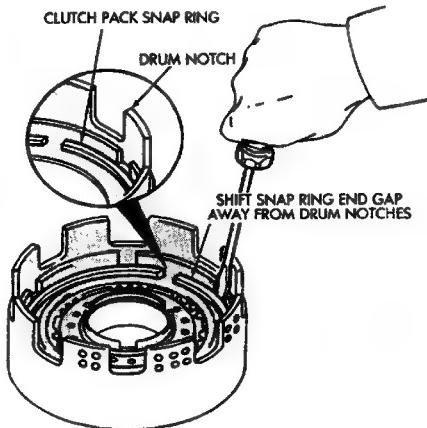

Fig. 13 Adjusting Clutch Pack Snap Ring Position
(1) Lubricate bearing and race assembly with petroleum jelly and install it in clutch drum (Fig. 13). Race side of assembly faces downward and toward drum. Bearing rollers face up (Fig. 13)